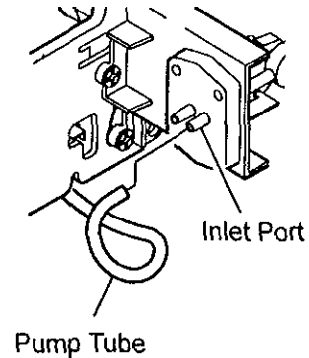

Figure 6 Install Pump Tube
- f. Reinstall the Pump tube to the inlet port (Figure 6).